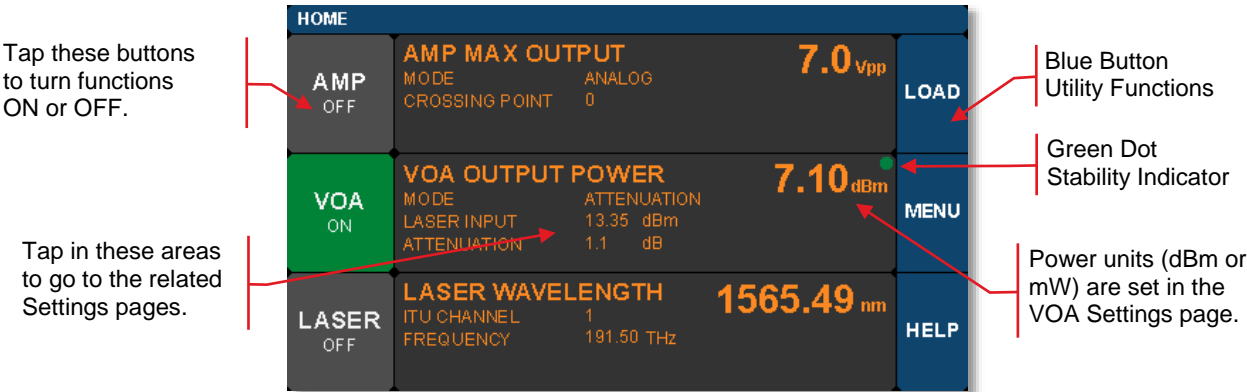

Figure 10 Home Screen Features
4. Turn the laser on by tapping the lower-left touchscreen button on the Home page (Figure 10). Use the utility menu page to adjust the calibration wavelength if desired (Section 3.3).
5. Take note of the output power, which is shown in the center right section of the Home page (Figure 10).
6. Turn on the VOA controller to adjust output power, if desired, by tapping the center-left touchscreen button on the Home page (Figure 10 and Section 4.3).
7. Turn on the AMP controller to set desired swing level (Figure 10 and Section 4.2).